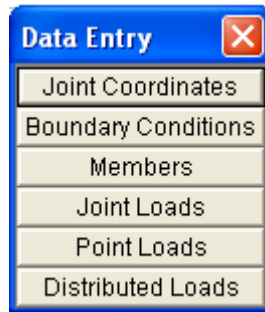

Figure 6
- (3) Next fill in the appropriate tables contained in the **Data Entry** box (Figure 6). Starting at the top, click on **Joint Coordinates** to open the **Joint Coordinates** Table (Figure 7) to define the position of each joint.